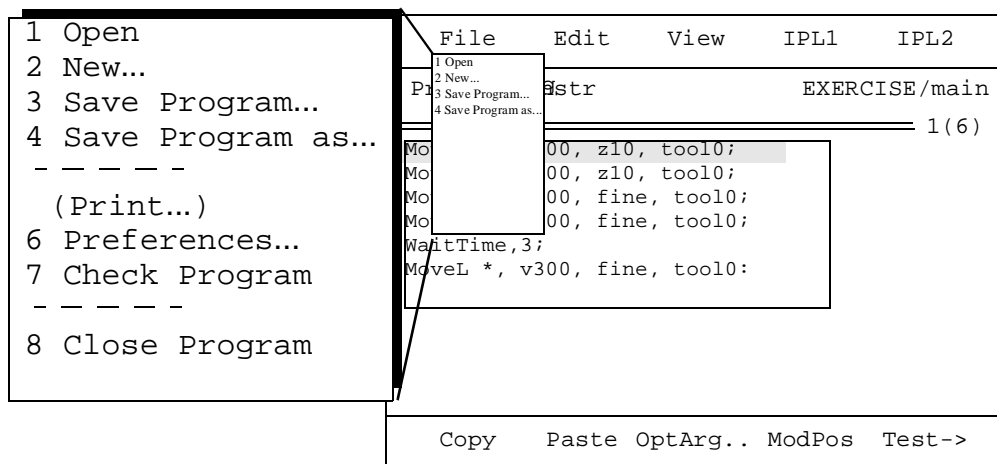

Figure 64 Commands in the File menu.
2. Press the **File** menu key. The window in Figure 64 appears.